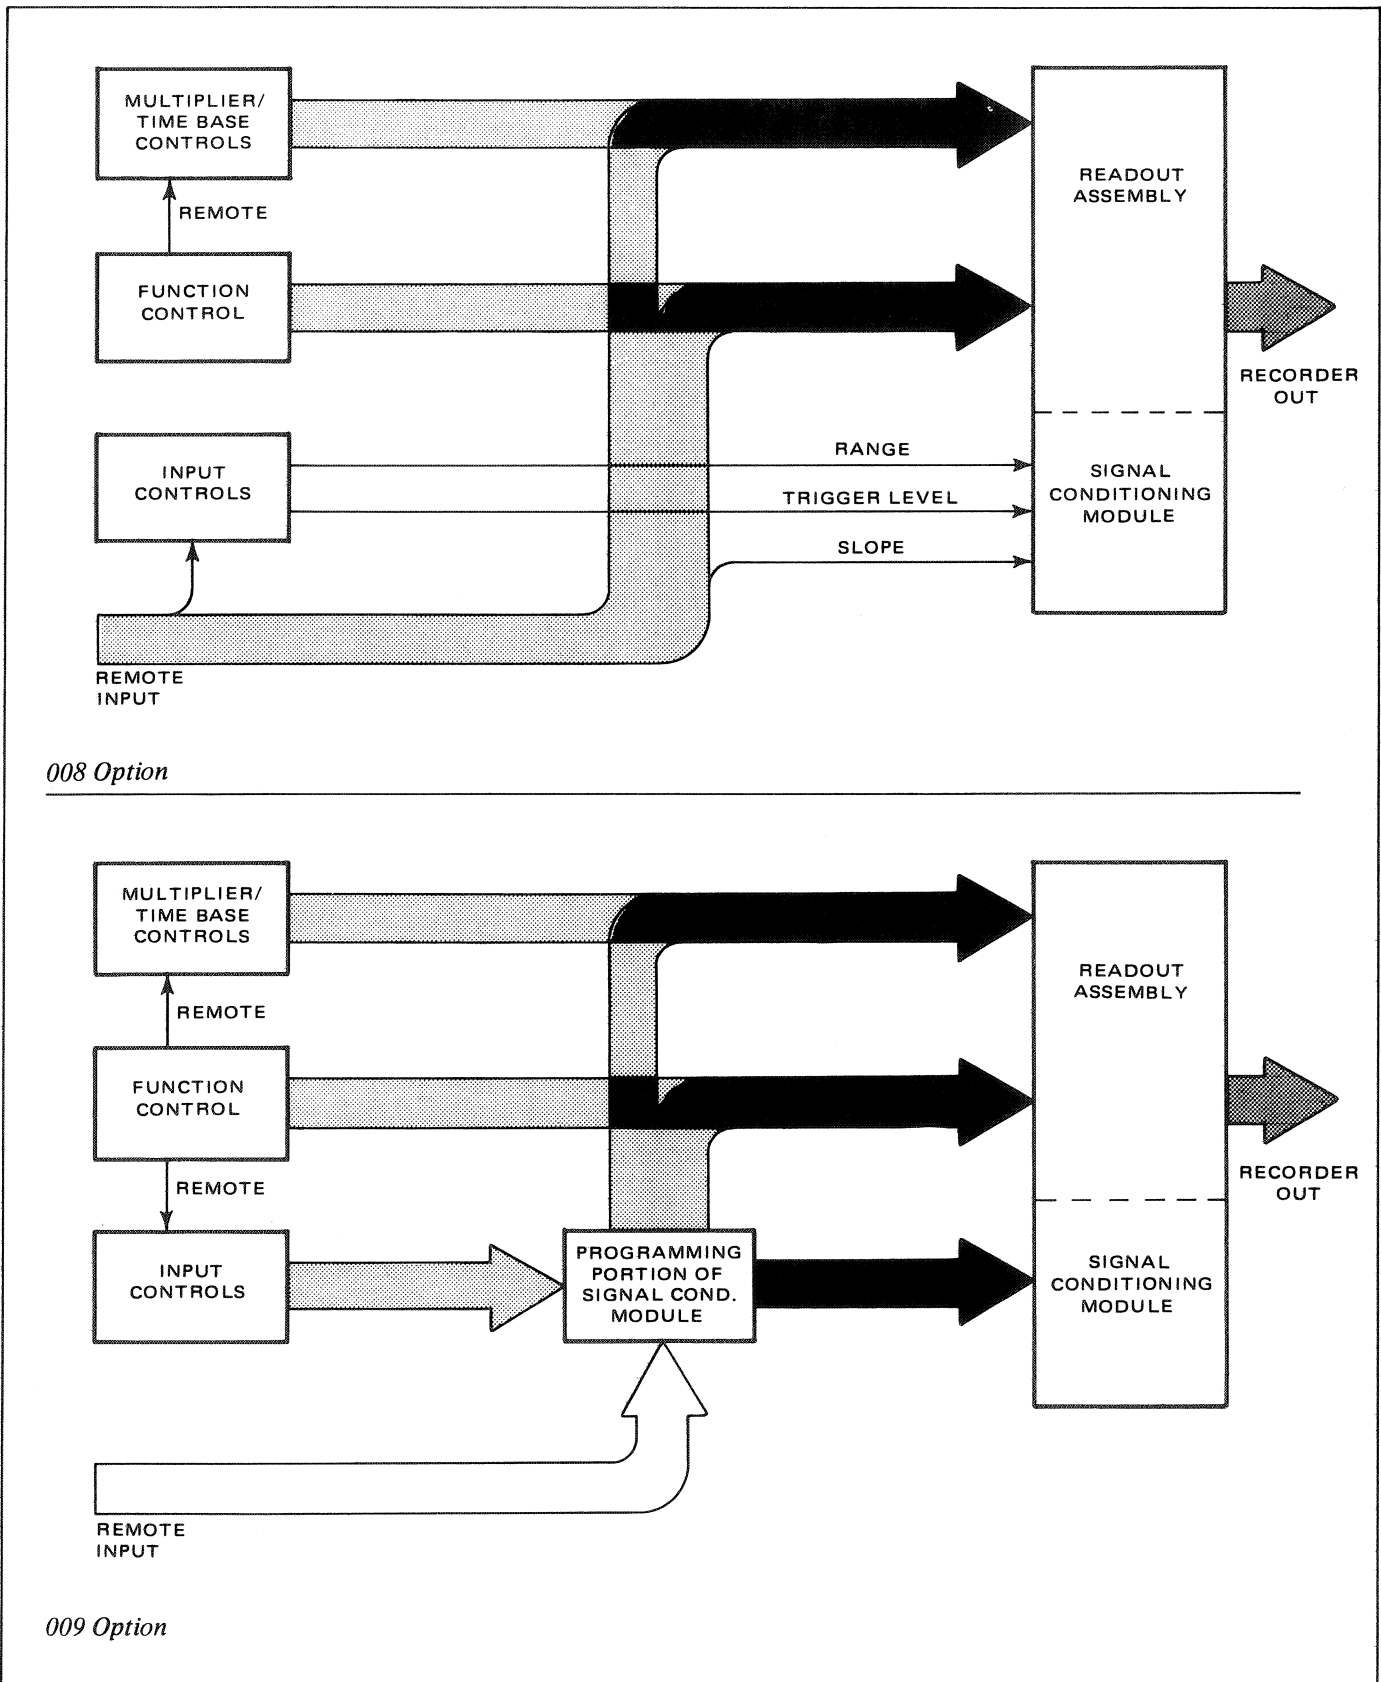

Figure 3.1 - 008/009 Programming, Block Diagram
3.2 The basic flow of information between the Series 8000B Counter and each of the interface options is shown in simplified form in figure 3.1. This figure and others in this section are provided as reference for the text and supplement the schematic drawings at the back of this manual and the Counter manual.